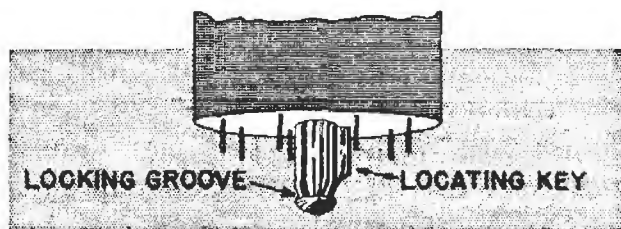

FIG. 36. The locking groove on a "loctal" base.
► Certain sets need tubes which will not easily loosen in their sockets. (Auto sets and portables are examples.) The "loctal" base is the answer to this. It is similar to the octal base except that the centering key has a ridge, shown in Fig. 36, which snaps